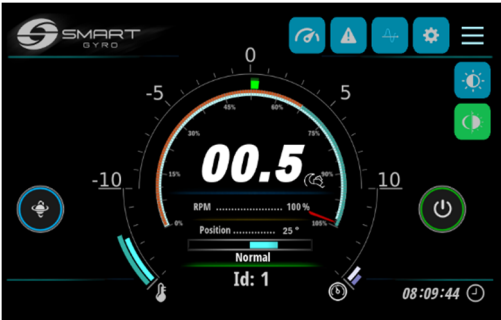

Figure 23
Pressing the brightness icon on the setting page (Figure 23, (1))